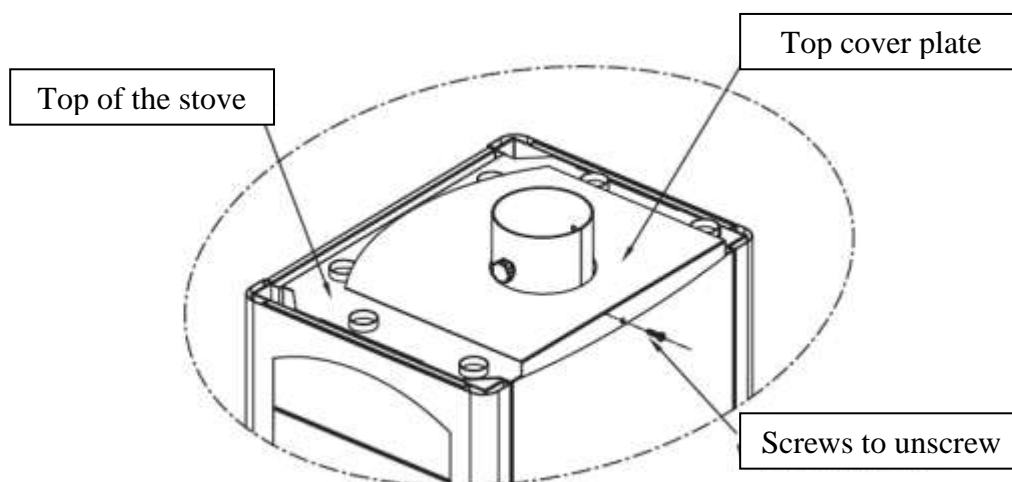

Figure: 3.9.
10. Unscrew the screw on the backside and open cover plate Figure 3.9.